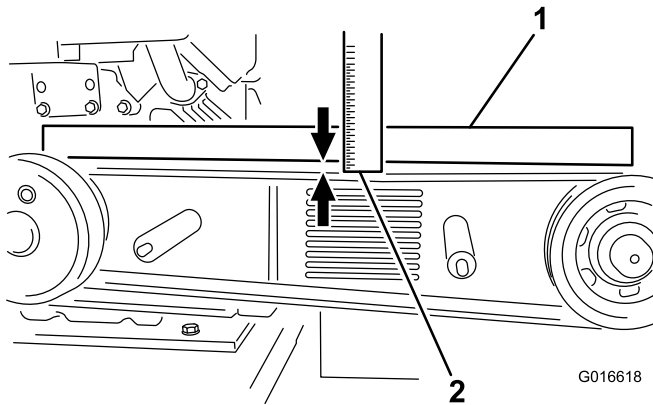

Figure 27
- Lay a straightedge across clutch and flywheel pulleys, tighten belt tension bolt so there is 0.40 inch (1 cm) of flex in the belt when pushing down with 15 lbs (6.8 kg) force, at mid-span (when re-tensioning a belt in use) or with 18 lbs (8 kg) force when installing a new belt (Figure 27).